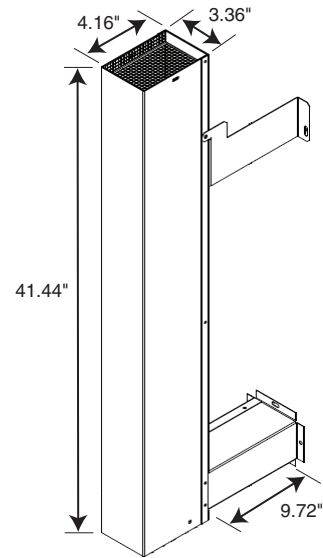

Fig. 2 — Flue Deflector Assembly
4. Align deflector assembly (Fig. 2) with outlet and remove screw in center post that lines up with upper bracket. Save screw.